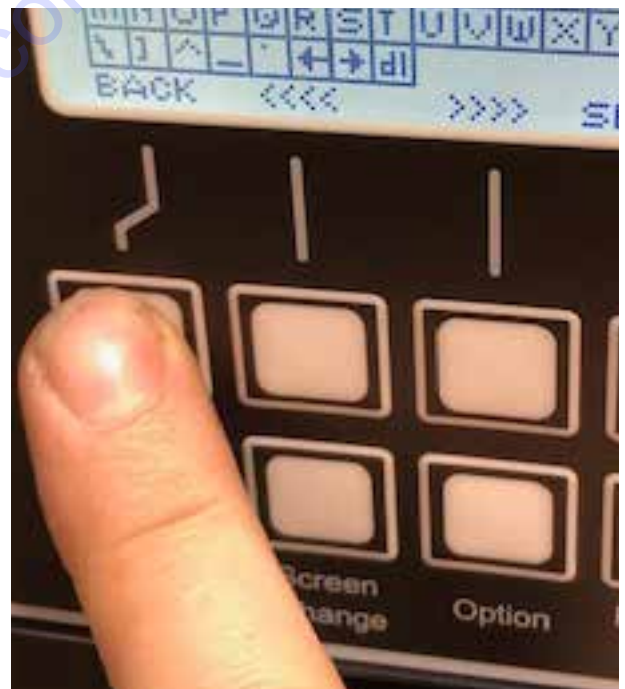

Figure 14. Back Button
8. Press the **BACK** button (Figure 14).